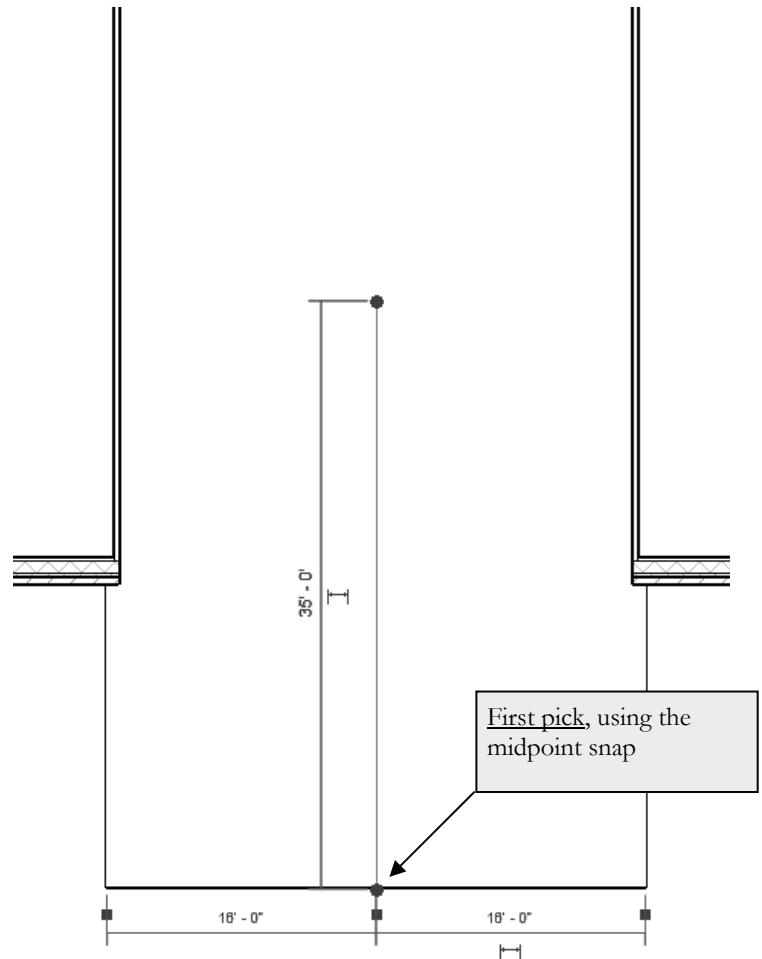

FIGURE 3-3.3
10. Draw the “vertical” line shown in Figure 3-3.3; be sure to snap to the *Midpoint* of the atrium wall as your first point.